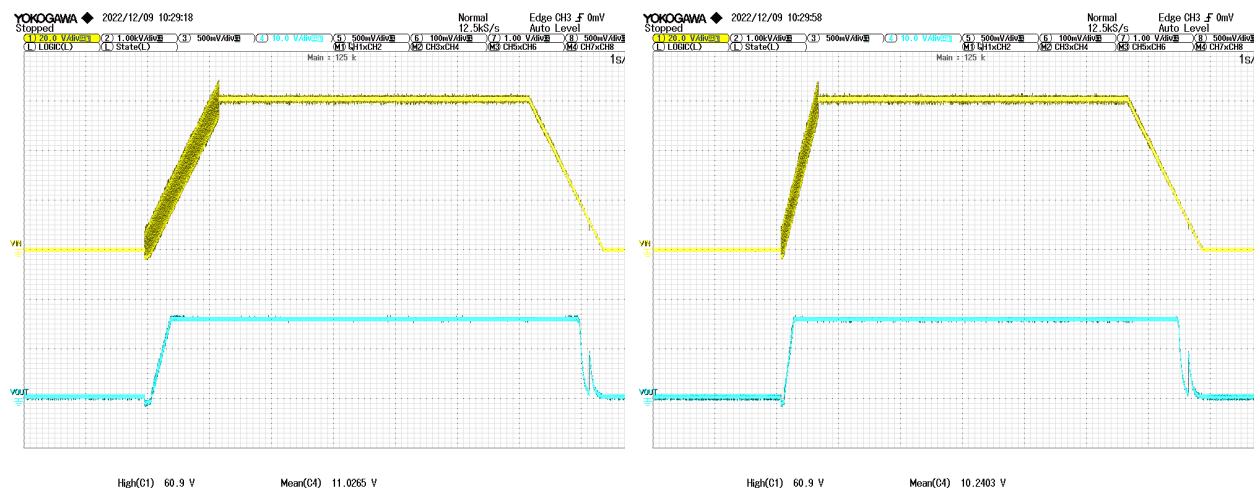
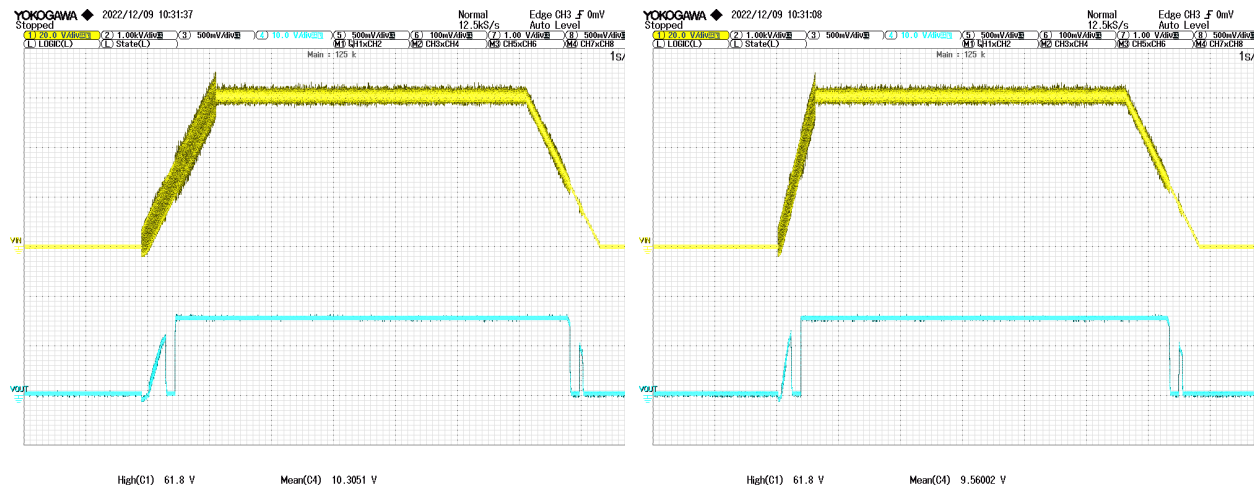

Figure 87 – 50 V / s Ramp Up (Left) and 100 V / s Ramp Up (Right).
Figure 88 – 50 V / s Ramp Up (Left) and 100 V / s Ramp Up (Right).
The waveforms from Figure 87 and Figure 88 show no influence on the output voltage caused by the ripple modulation on the input voltage. The triggering of the “auto-restart” (AR) feature observed during the input voltage ramp up at full load condition and ramp down at both loading conditions is expected to happen when the output voltage regulation is not reached within a 50 ms period.